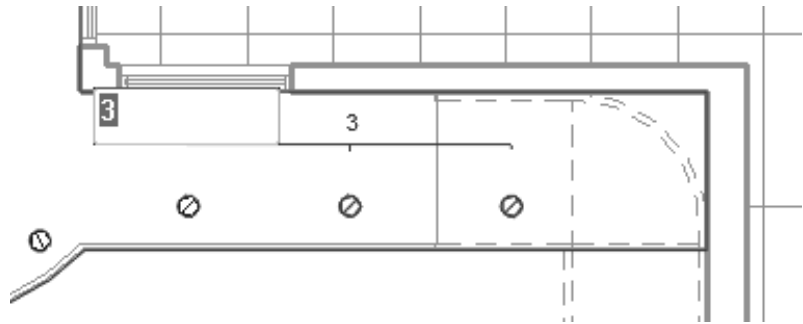

Figure 2–55
6. If the **Group and Associate** option is selected, you are prompted again for the number of items, as shown in Figure 2–55. Type a new number or click on the screen to finish the command.